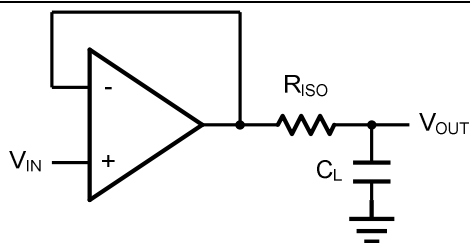
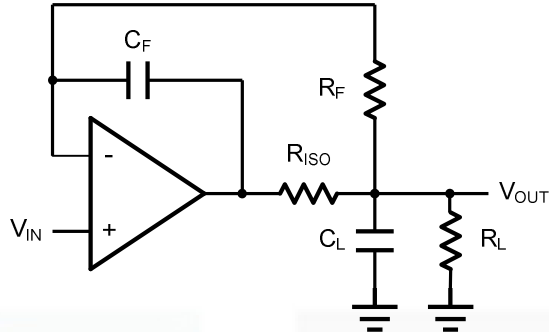

Figure 2. Indirectly Driving a Capacitive Load Using Isolation Resistor
Figure 3. Indirectly Driving a Capacitive Load with DC Accuracy
The GS321A family is optimized for bandwidth and speed, not for driving capacitive loads. Output capacitance will create a pole in the amplifier's feedback path, leading to excessive peaking and potential oscillation. If dealing with load capacitance is a requirement of the application, the two strategies to consider are (1) using a small resistor in series with the amplifier's output and the load capacitance and (2) reducing the bandwidth of the amplifier's feedback loop by increasing the overall noise gain. Figure 2. shows a unity gain follower using the series resistor strategy. The resistor isolates the output from the capacitance and, more importantly, creates a zero in the feedback path that compensates for the pole created by the output capacitance.
The circuit in Figure 3 is an improvement to the one in Figure 2. R_{F} provides the DC accuracy by feed-forward the V_{IN} to R_{L} . C_{F}